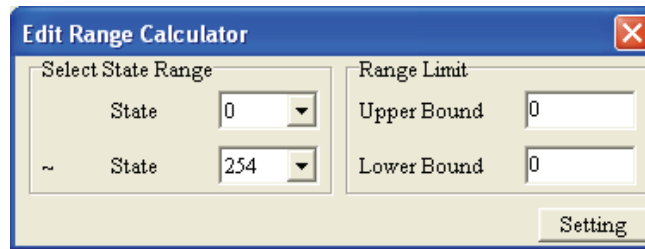

Figure 1-103
- Step 5. After pressing Refer Value button, the following Edit Range Calculator tab (Figure 1-103) will appear and it could help to calculate the setting range value for all states.